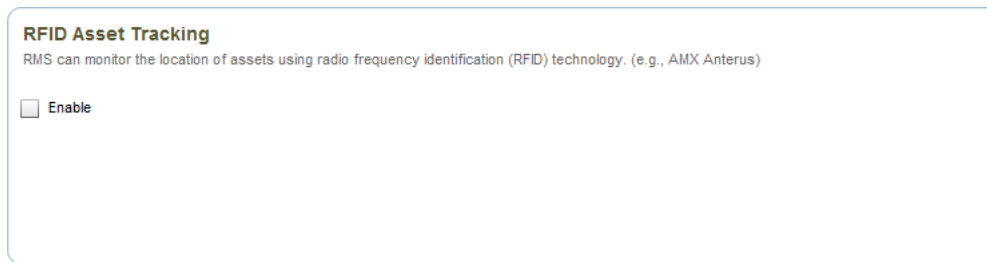

FIG. 429 RFID Asset Tracking page
Select **RFID Asset Tracking** under *Asset Configuration* in the Configuration menu to open the *RFID Asset Tracking* page (FIG. 429):
1. Select **RFID Asset Tracking** under *Asset Configuration* in the Configuration menu to open the *RFID Asset Tracking page* - see FIG. 429 on page 262).